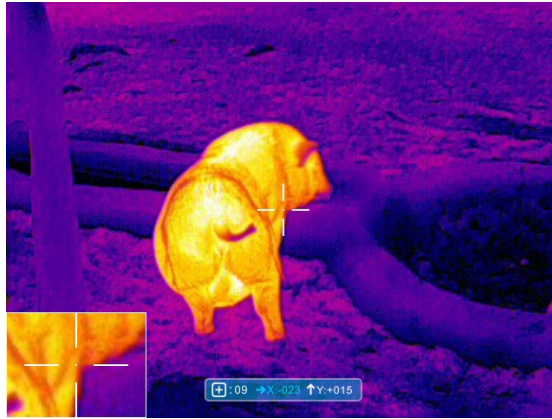

Fig.5 Blind pixel calibration interface
- In the advanced menu, press the **Power/C** button to select the blind pixel calibration item and press the **M** button to enter the calibration interface as shown in figure 5.